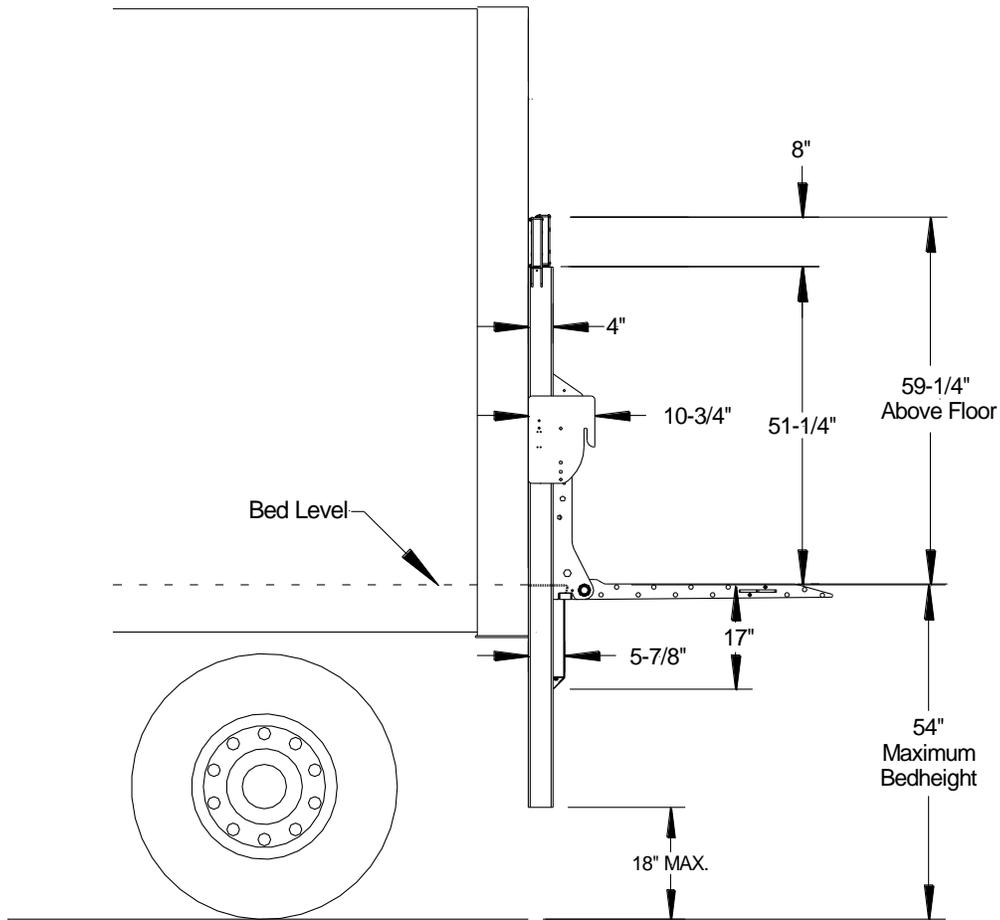

Fig.3
1. **Measure Floor Height:** Measure the floor height of your truck and determine clearance requirements for your liftgate platform size, **Fig.3**.